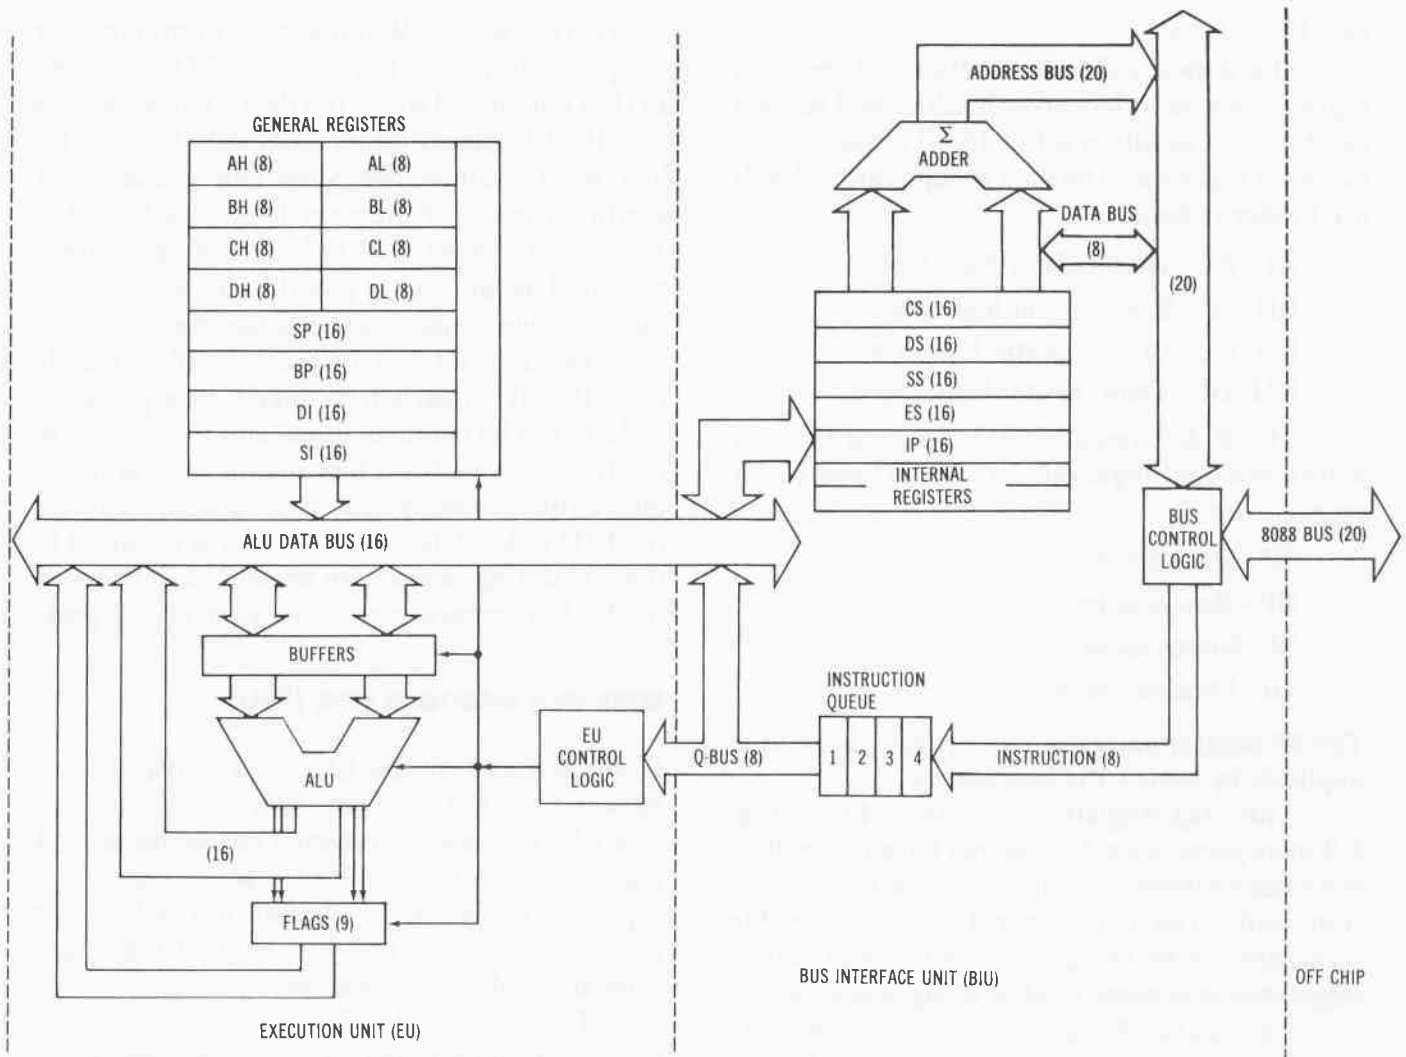

Fig. 2-9. The 8088 microprocessor block diagram.
As shown in Fig. 2-9, the 8088 CPU incorporates two separate processing units: an execution unit (EU) and a bus interface unit (BIU). Standard microprocessors with a sequential CPU architecture execute programs by fetching an instruction, executing the instruction, and then fetching the next instruction in a long time-consuming sequence. The logic in the CPU must wait for the fetch and instruction decoding operations before execution can begin. The control and arithmetic logic must spend a lot of overhead time waiting. Intel eliminated this wasted time by partitioning the 8088 CPU into two independent sections.
The Flag Register below the CPU in Fig. 2-9 incorporates six 1-bit status flags that reflect conditions following an arithmetic or logic operation, and three 1-bit control flags that enable interrupts to be recognized by the ALU allow single-step operation, or alter string operations.